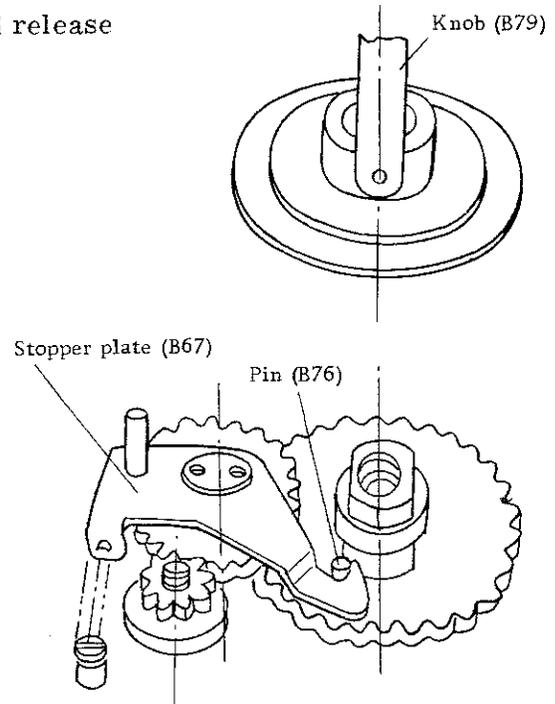

Fig. 5
Remove the installation screws (B100, 3 each), and remove the film advance mechanism unit (D1A). (Fig. 5)
Remove the installation screws (B109, 5 each), and remove the shutter set mechanism unit (D45A). (Fig. 5)
Remove the installation screws (B100, 3 each), and remove the film indicator (M1A). (Fig. 5)
(Fig. 5)
b. Detach the bottom plate (E3), and make sure that the hook on the stopper plate (B67) correctly hooks the pin (B76). When hooking is insufficient, properly bend the hook with a pair of pliers so that it hooks the pin securely. (Fig. 5)